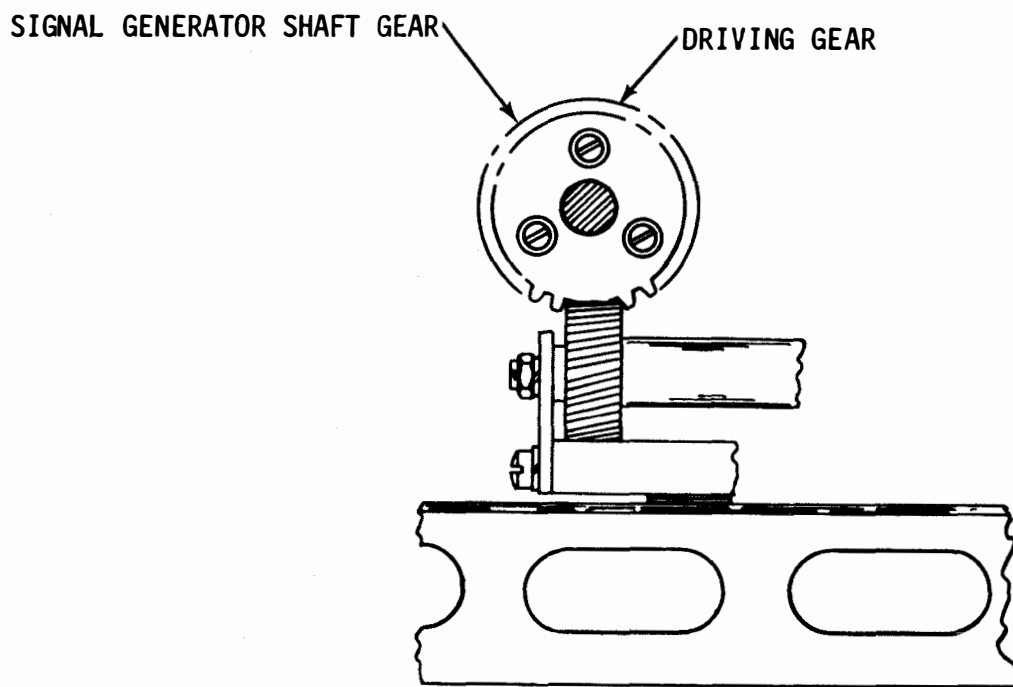
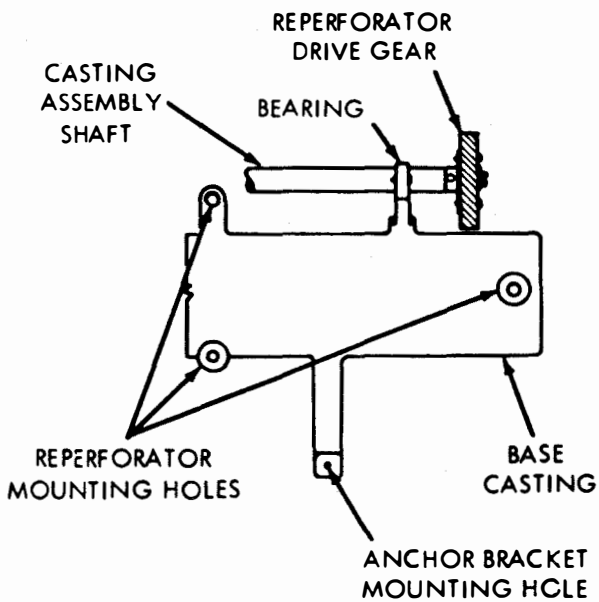

Figure 6-122. Signal Generator Shaft Gear Mesh
Figure 6-123. Typing Reperforator Shaft Gear Mesh
(2) Signal Generator Shaft Gear Mesh. Adjust as follows:
- (a) Refer to figure 6-122.
(3) Typing Reperforator Shaft Gear Mesh. Adjust as follows:
- (a) Refer to figure 6-123.